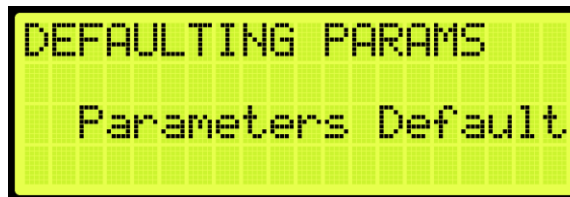

Figure 459: DEFAULTING PARAMS Menu – Parameters Defaulted
- When the system has completed defaulting all parameters, the DEFAULTING PARAMS menu displays Parameters Defaulted (See Figure 459).
6. When the system has completed defaulting all parameters, the DEFAULTING PARAMS menu displays Parameters Defaulted (See Figure 459).